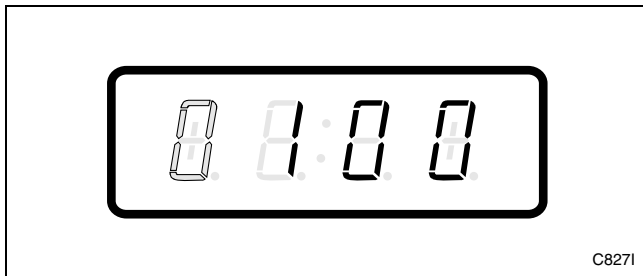

Figure 12
6. Press the START (enter) keypad to enter the fifth digit and display remaining four digits. The active digit will flash one second on and one second off. Refer to *Figure 12*.